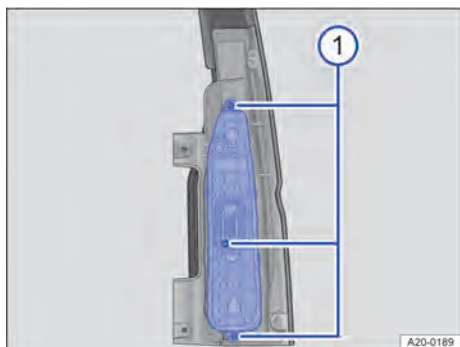

Fig. 176 On the tail light cluster: removing the bulb holder.
2. Undo three securing screws with the screwdriver → Fig. 176 ①. Insert a suitable interchangeable blade if necessary.
3. Remove the bulb holder → Fig. 176.
1. Carefully insert the bulb holder into the tail light cluster → Fig. 176.
2. Screw the bulb holder onto the tail light cluster with the three securing screws → Fig. 176 ①.